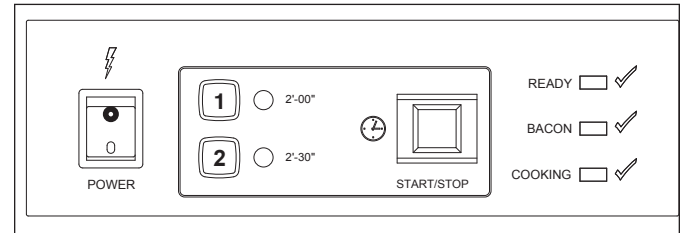

Figure 2. Operating Controls
1. Turn the power on (Figure 2).